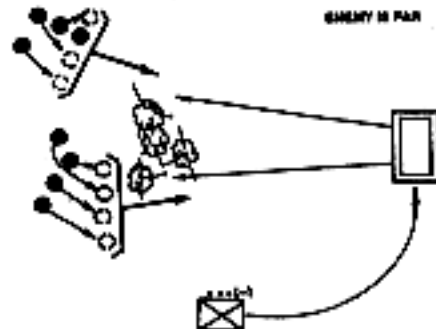

Figure 6-6. Far Ambush.
2. Far Ambush: Beyond hand grenade range (figure 6-6).